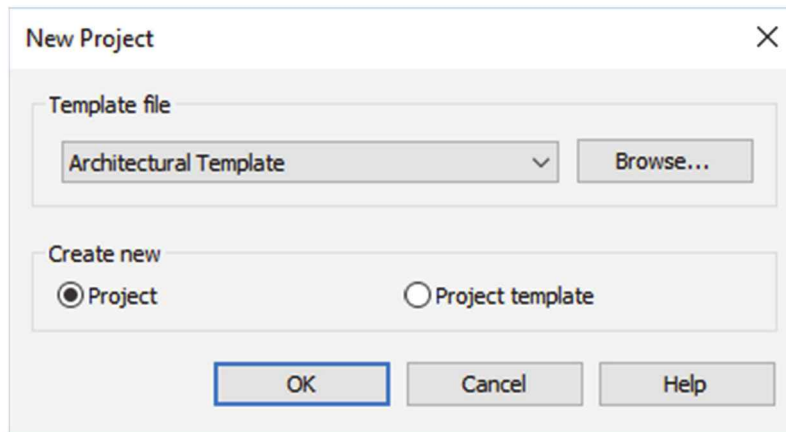

FIGURE 1-4.1 New Project dialog box
After clicking *New* → *Project* you will get the **New Project** dialog box (Figure 1-4.1).
2. Select the **Architectural Template** *template file*. Leave *Create new* set to **Project** (Figure 1-4.1).